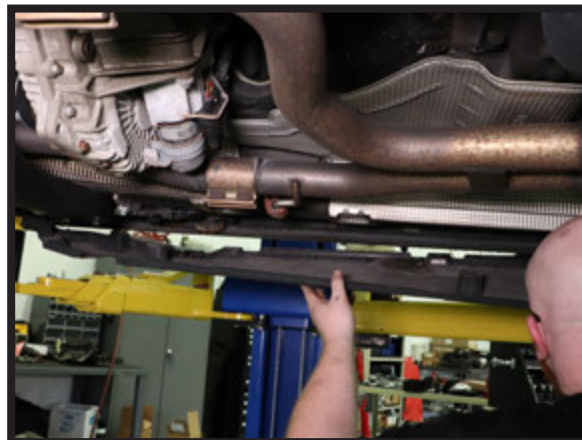

FIGURE 1
2. REMOVE TRIM UNDER PASSENGER SIDE TO GAIN ACCESS TO THE PUMP/VALVE BLOCK. (FIGURE 1)